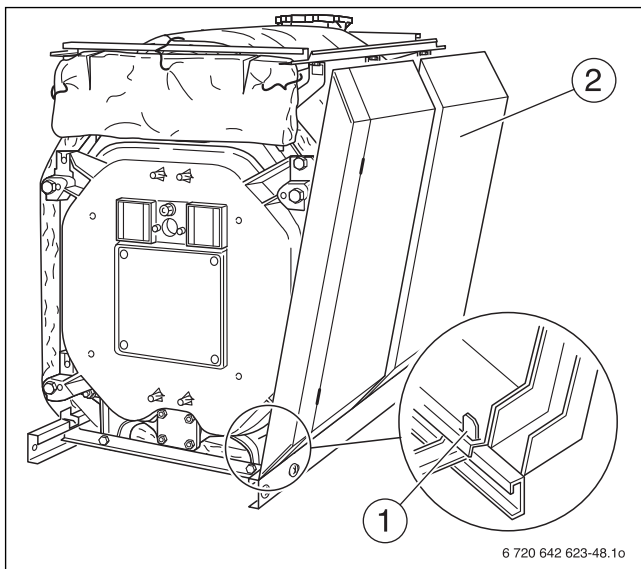

Fig. 50 Attaching the side panel sections
- ▶ Attach the side panels (→ Fig. 50, [2]) on the bottom left and right to the lugs in the base rails that have been bent upwards (→ Fig. 50, [1]) then push up over the folded edge of the longitudinal rails.